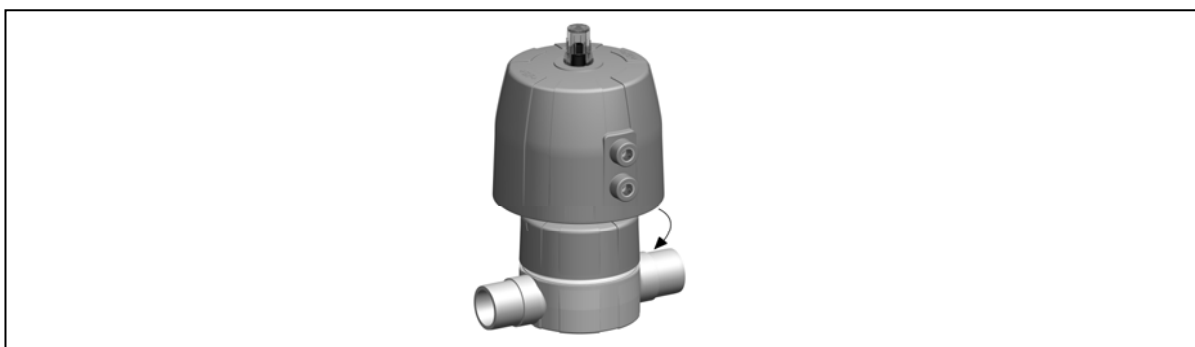

Fig. 25
- ▶ Tighten housing nut handtight, see fig. 25